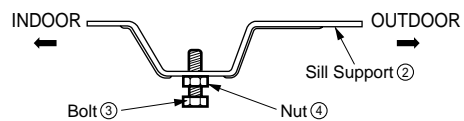

Fig. 3
- 3 Loosely assemble the Sill Support ② using the parts in Fig. 3.